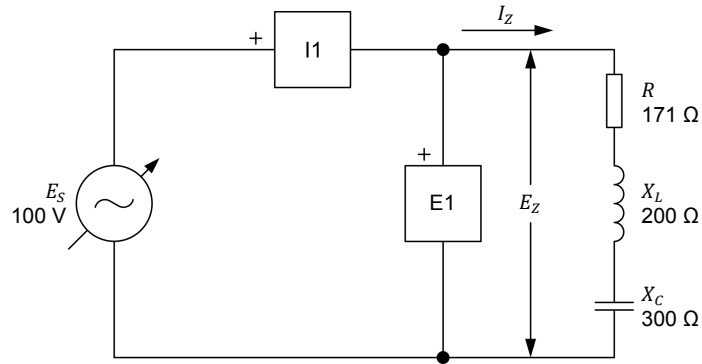

Figure 2-20. Series ac circuit containing a resistor, an inductor, and a capacitor.
40. Set up the circuit shown in Figure 2-20.